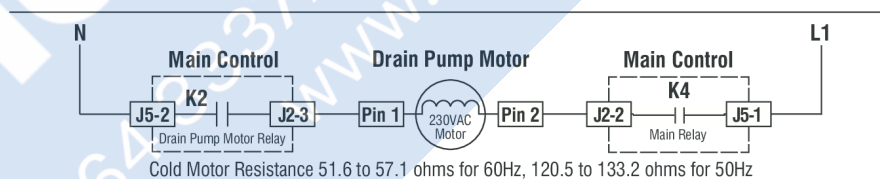

Figure 6 - Drain Pump Strip Circuit
**NOTE:** Refer to Figure 6, "Drain Pump Strip Circuit" for tests and measurements.